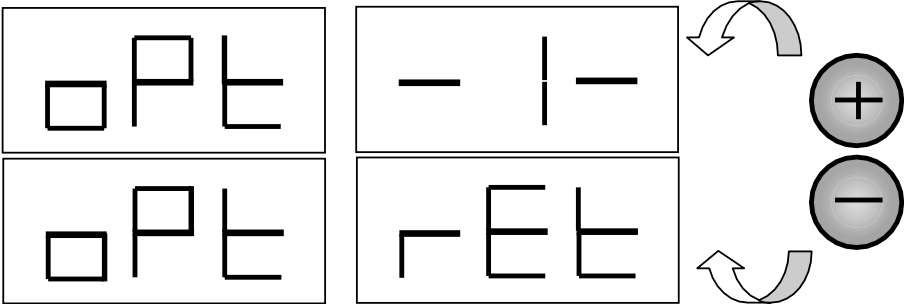

Fig. F5.1 Access to the Optimisation programme
1. Press [F+P4]  + . The display will show the options shown in figure F5.1. Press [P4]  or [P5]  and choose the option `Opt-1-` to continue, or the option `Opt ret` to return to the operating programme. Press [F+P4]  +  to confirm the chosen option;